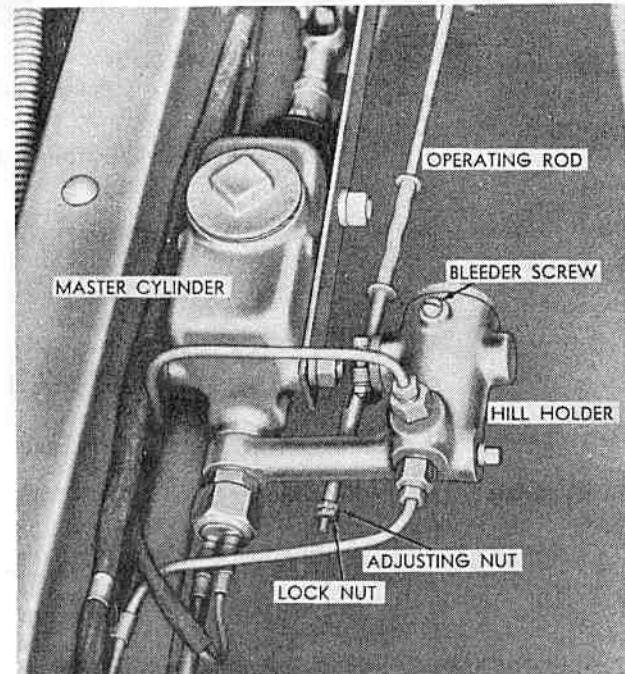

FIG. 62
**CHAMPION AND COMMANDER** When making a clutch pedal adjustment, also adjust the hill holder to clutch pedal rod. Loosen the lock nut on the end of the control rod and turn the adjustment nut either to the right or the left to provide simultaneous hill holder release and clutch pedal engagement. When the correct adjustment has been obtained, tighten the lock nut (see Fig. 62).